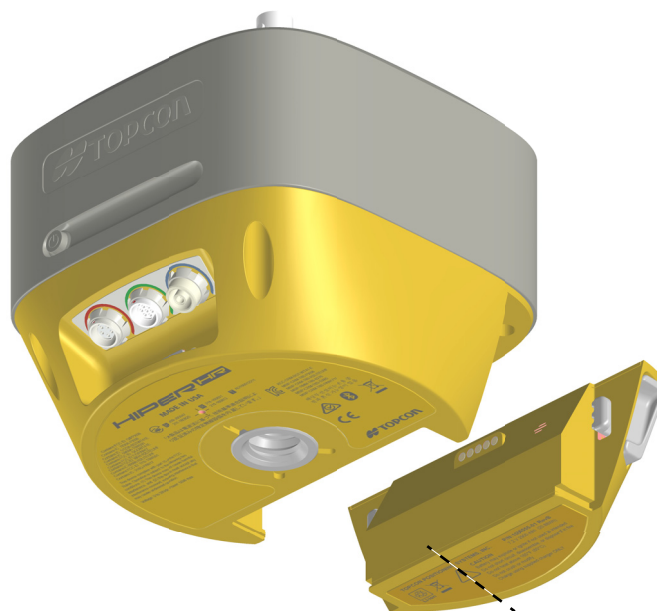

Figure 4-1: Attach HiPer HR Battery
1. With the battery slightly tipped, place the bottom of the battery into the bottom of the battery compartment (Figure 4-1).